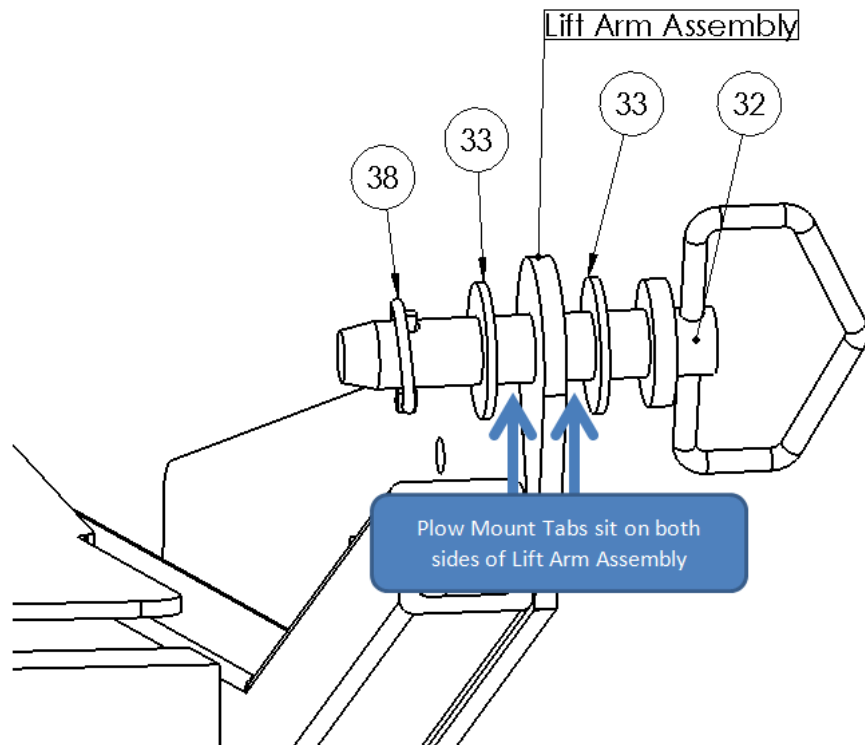

Figure 14
- 14) Use the QR-A1 Quick Release Pins (#32), Quick Release Pin Washers (#33) and Snap Ring (#38) to secure the rear tab on the Lift Arm Assembly to the plow mount tabs (Not Shown). Insert the Quick Release Pins as shown in (Figure 14).